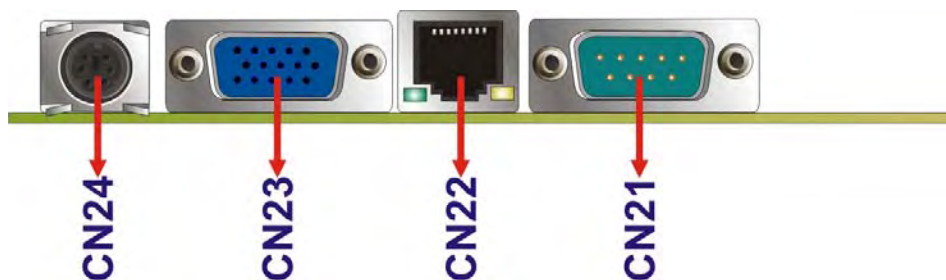

Figure 3-21: 3308585 On-board External Interface Connectors
The 3308585 external peripheral interface connectors are listed below and shown in Figure 3-21:
| CN Location: | See Figure 3-21                |
| CN Location: | See Figure 3-21 |
See Figure 3-21
- CN Location:** See Figure 3-21